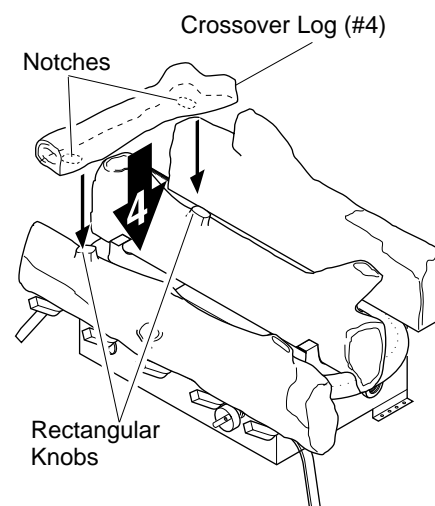

Figure 22 - Installing Crossover Log (#4)
4. Locate the notches in the bottom of the crossover log (#4). Place the crossover log on top of the middle log and front log. Make sure the notches of the crossover log lines up with rectangular knobs on top of the middle and front logs (see Figure 22).